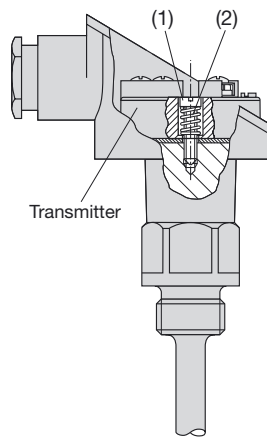

Fig. 3. Spring mounting on the insert in the terminal head.
Thread the leads through the hole in the centre of the transmitter. Align the transmitter in the lower part of the terminal head and secure it using two cheese-headed screws (1) and two springs (2) (see Fig. 3). Connect the leads acc. to section "7. Electrical connections".